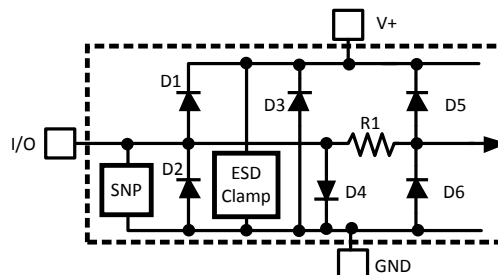

Figure 1. ESD Protection Input Structure
- (1) Absolute Maximum Ratings indicate limits beyond which damage to the device may occur. DC and AC electrical specifications do not apply when operating the device beyond its rated operating conditions.
- (2) When the input voltage (V_I) at any pin exceeds the power supplies ($V_I < \text{GND}$ or $V_I > V_{DD}$), the current at that pin should be limited to 5 mA. Parasitic components and or ESD protection circuitry are shown in Table 1 and Figure 1 for the LM86's pins. The nominal breakdown voltage of D3 is 6.5 V. Care should be taken not to forward bias the parasitic diode, D1, present on pins: D+, D–. Doing so by more than 50 mV may corrupt a temperature measurements.
- (3) See the URL "<http://www.national.com/packaging/>" for other recommendations and methods of soldering surface mount devices.
- (4) Human body model, 100pF discharged through a 1.5k Ω resistor. Machine model, 200pF discharged directly into each pin.